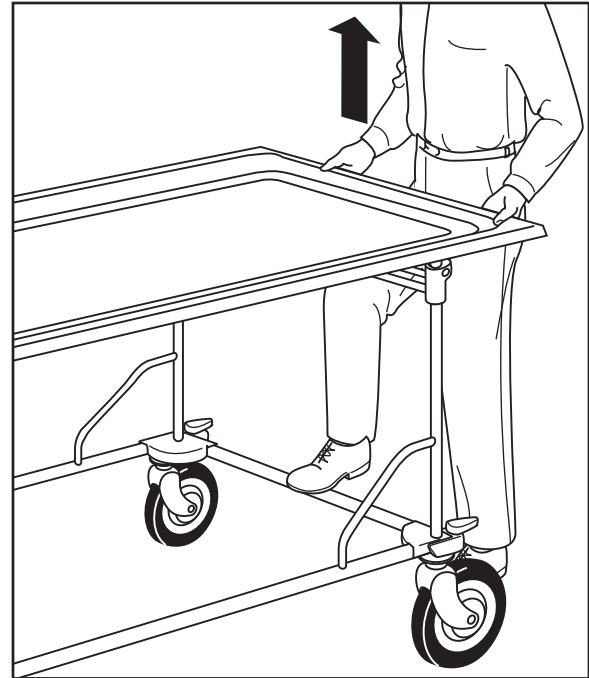

Figure 7 - Raising the Table Top
2. Press downward on the crossbar with one foot as you raise the table top a little higher than the desired height (Figure 7).